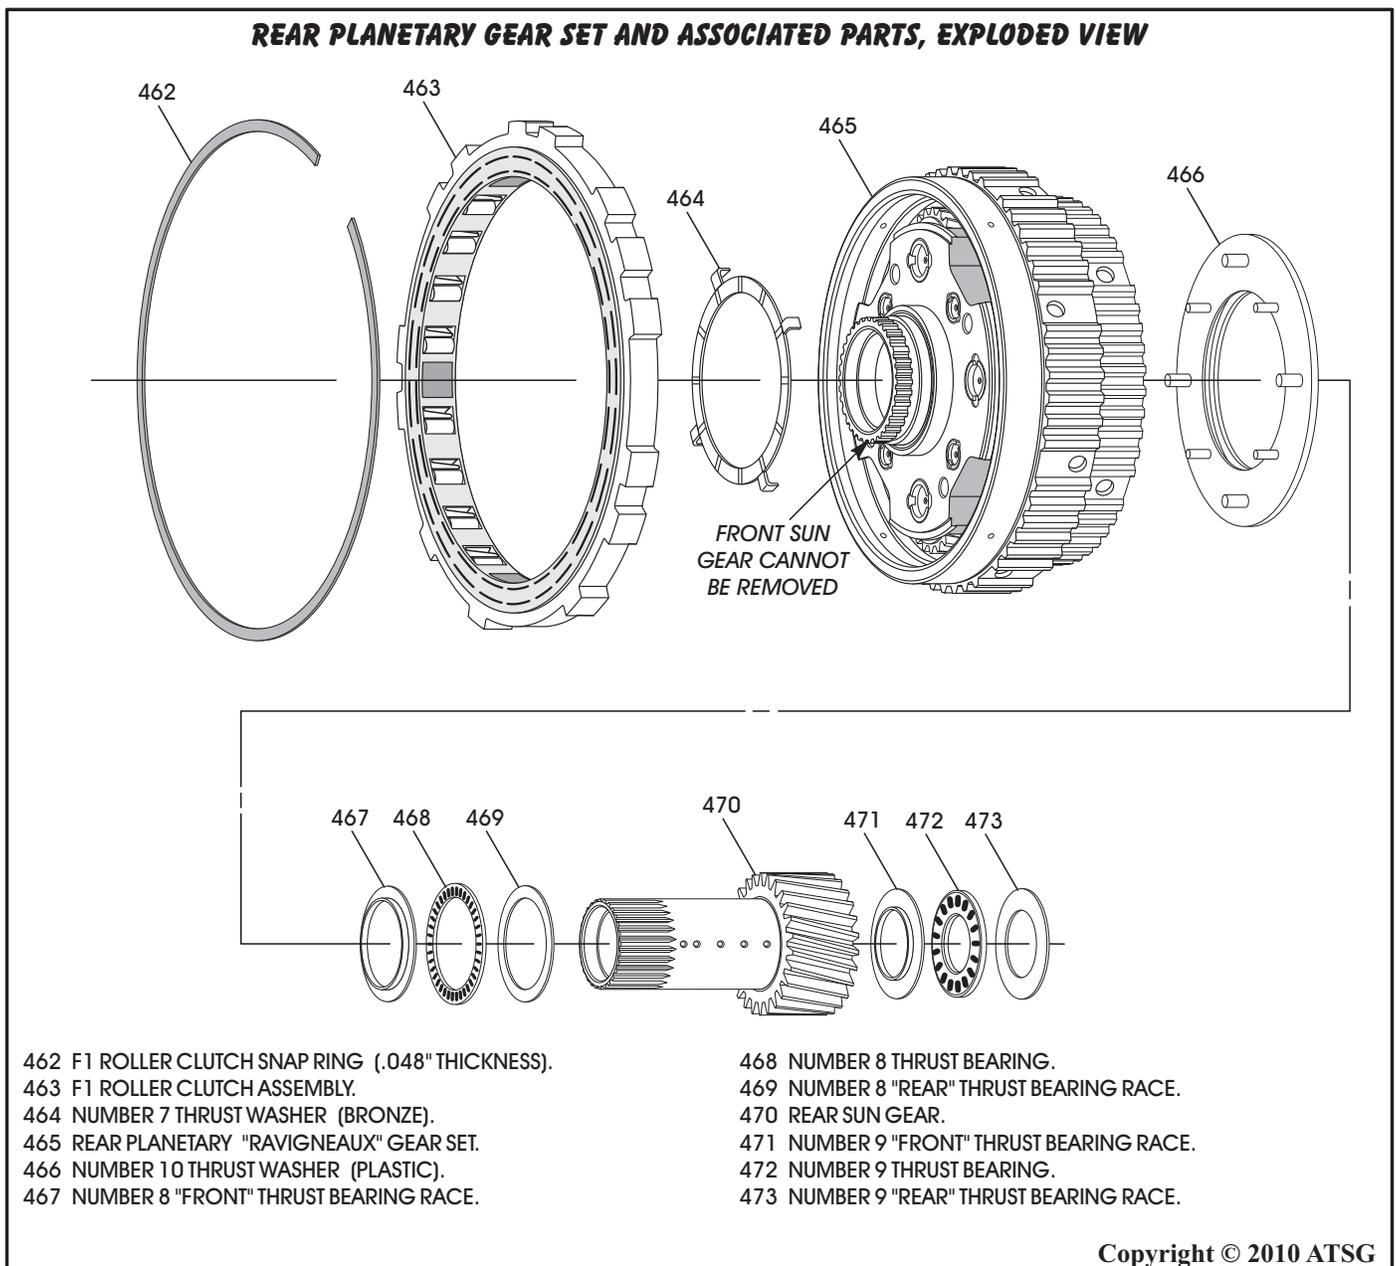

Figure 129
1. Disassemble the rear planetary assembly using Figure 129 as a guide.
1. Disassemble the front planetary assembly using Figure 129 as a guide.